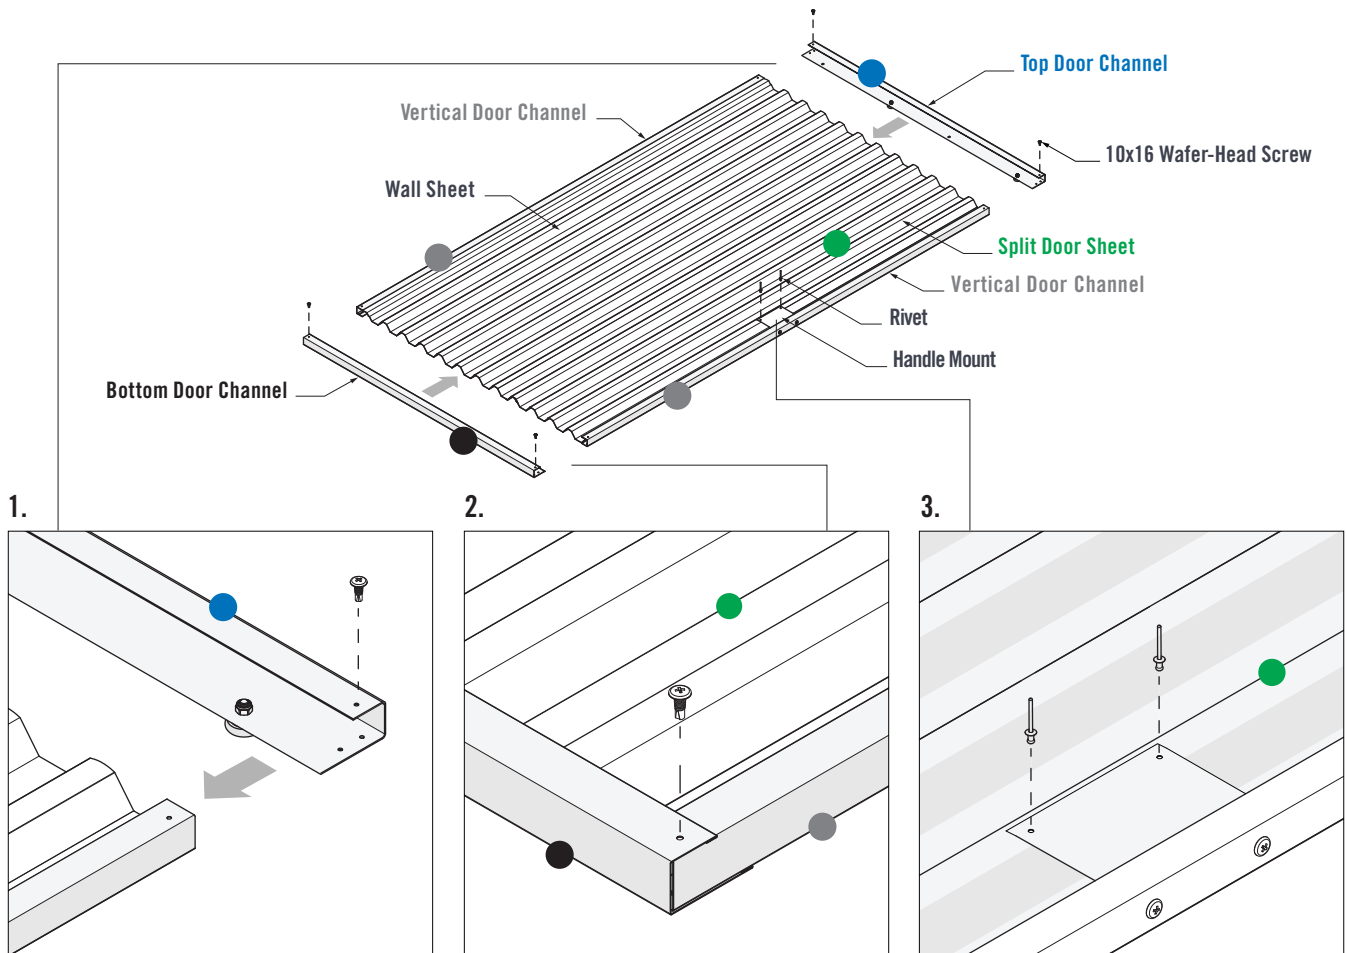

FIGURE 6.5
1. Fit the Vertical Door Channels over the side of the door sheets, then fit the **Top** and **Bottom** Door Channels over the door sheet ends. Ensure the lip of the Top and Bottom Door Channels fit over the Vertical Door Channels (Figure 6.5).
2. Fasten one 10x16 Wafer-Head Screw through the pilot holes in the corner of each **Top** & Bottom Channel and into the Vertical Door Channels (Figure 6.5).
3. Drill two 3.5mm holes through the Handle Mount and into the **Split Door Sheet**. Install two coloured Rivets (Figure 6.5).